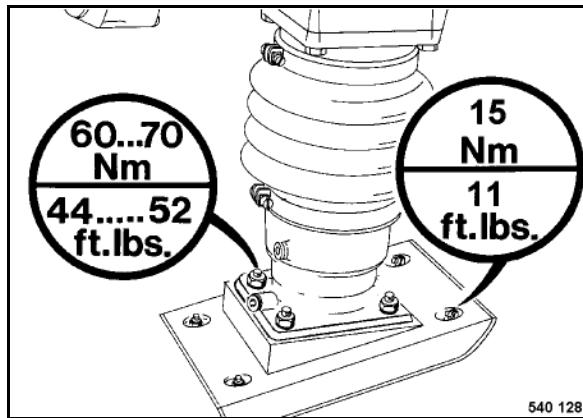

Fig. 41 □
- Retighten the screws (Fig. 41).